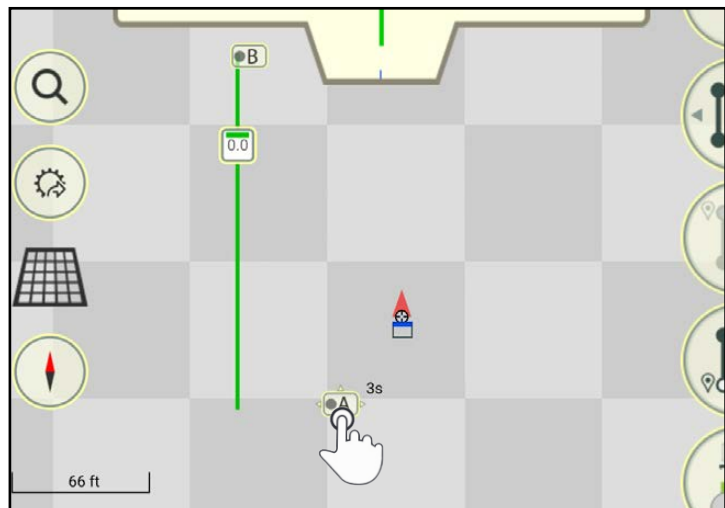

Fig. 114: A point moved
3. Tap the required position in the field to position the track marker (see Fig. 114).